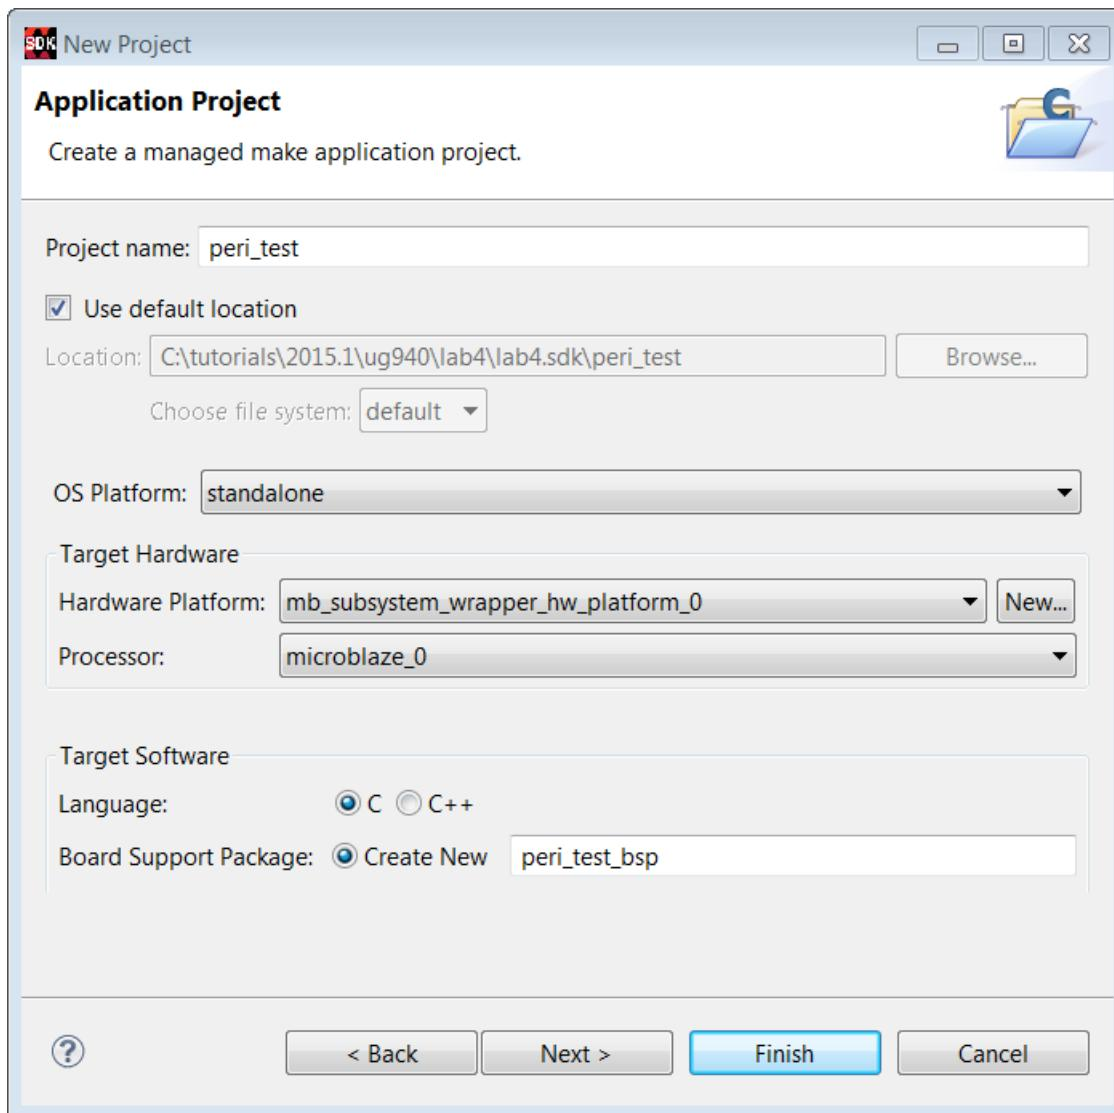

Figure 140: New Project: Application Project Wizard
4. Type a name (such as peri_test) for your project and choose standalone as the OS platform, as displayed below in Figure 140.